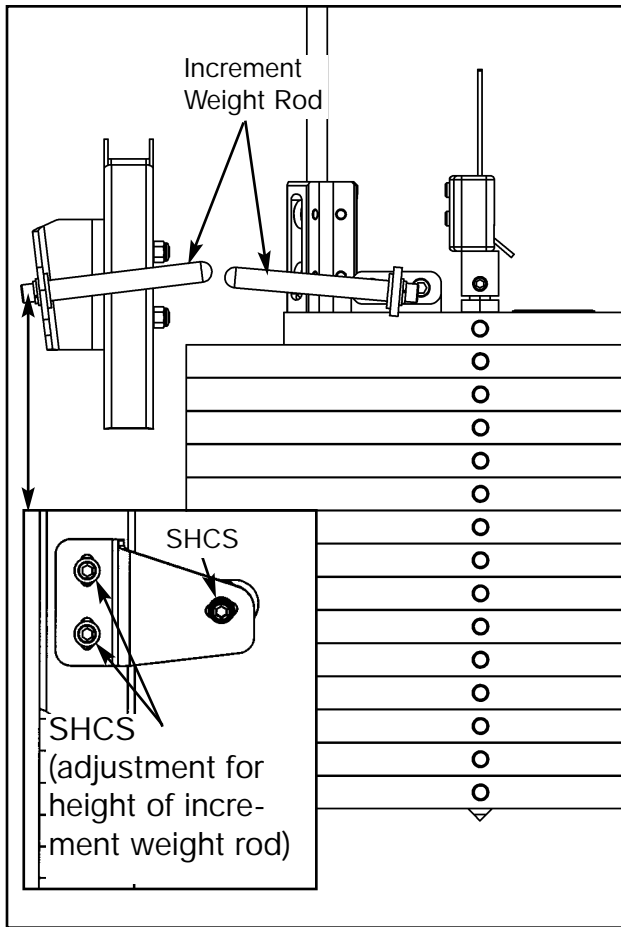

Figure 10
C. Adjust the height of the increment weight rod (on the frame) to match the height of the increment weight rod on the top weight. Tighten each SHCS securely. See Figure 10.